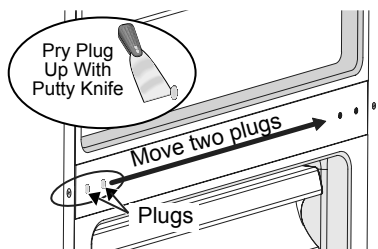

Figure 15
23. Use a putty knife to gently remove the center hinge screw plugs and reinstall on the opposite side of the cabinet (see Figure 15).